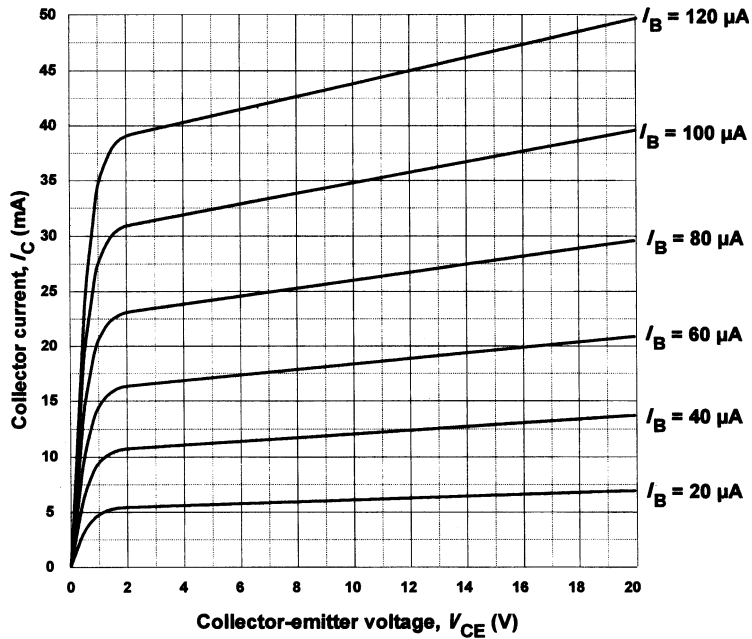

Figure A2.17
37. The output characteristics of a bipolar transistor are shown in Fig. A2.17. If the transistor operates with  $V_{CC} = 15\ \text{V}$ ,  $R_L = 500\ \Omega$  and  $I_B = 40\ \mu\text{A}$  determine: